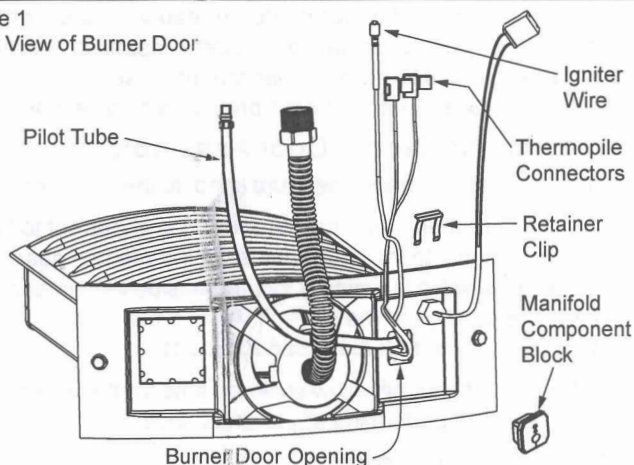

Figure 2
2. Lift the retainer clip straight up from the back of the manifold component block (using a flat-blade screwdriver), then remove the manifold component block from the burner door (Figure 2). **IMPORTANT:** Be careful not to bend or alter the position of the pilot tube. Note the placement/order of the wires in the manifold component block.